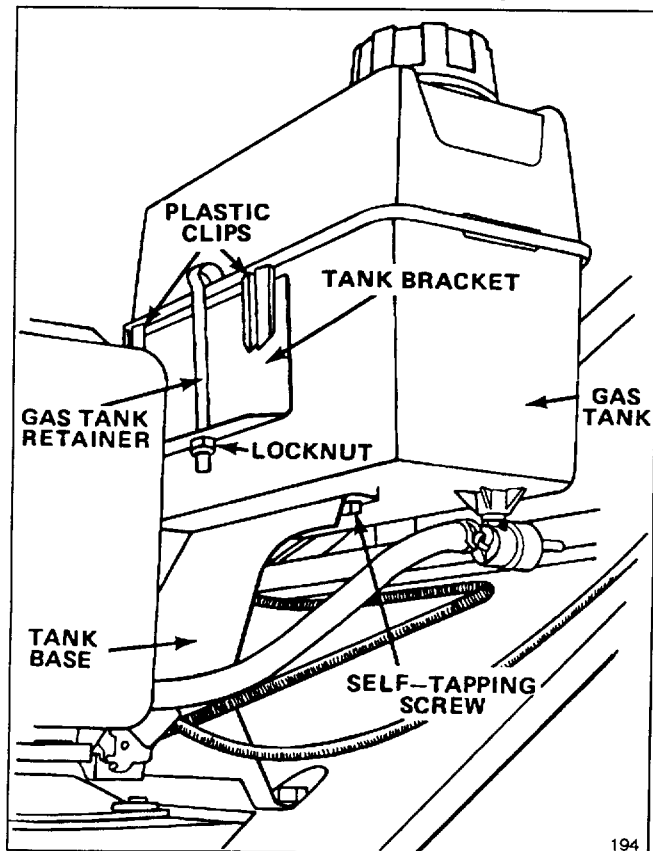

Figure 6
2. Hook plastic clips on rear of gas tank onto tank bracket (Fig. 6).
3. Secure gas tank to tank base with (2) self-tapping screws (Fig. 6). Do not overtighten.
4. Hook gas tank retainer onto gas tank and slide end of retainer into hole in tank bracket. Secure retainer to tank bracket with locknut (Fig. 6). Do not overtighten.